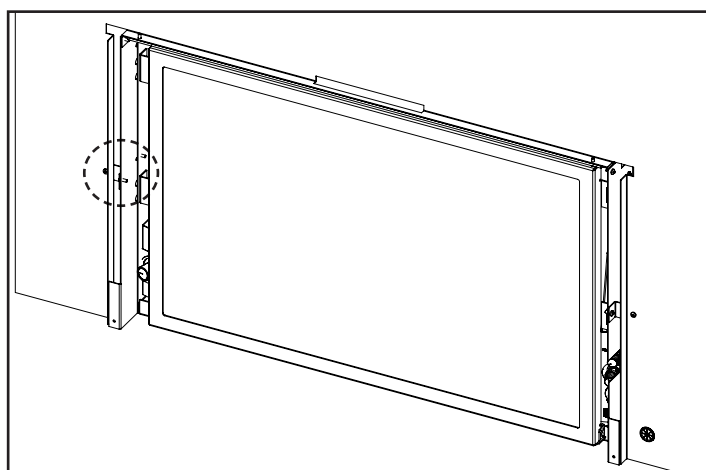

Figure 33: Trimmable Panel Installed
3. Using the remaining hardware attach the Trimmable Panel to the Panel Brackets using a T-20 Torx screwdriver (See Figure 33).